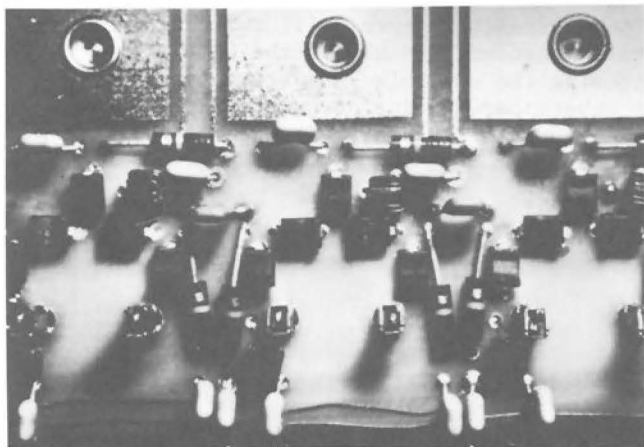

Fig. 6 Pin Diode switch on subscriber module pc board
If a subscriber wants to receive a premium channel service, an order must be entered into the computer terminal. A command is then sent to the subscriber terminal to bypass the Active Trap associated with the requested premium channel. The bypass of the Active Trap is accomplished electronically with two (2) SPDT pin diode switches (Figures 6 & 7).